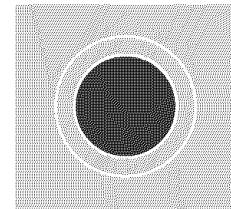
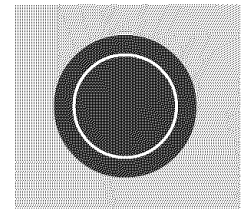

Figure 3
Figure 4
The cooktop is equipped with a dual radiant surface element located at the right front (See Figures 1) position. Symbols on the control knob are used to indicate which coil of the dual radiant element will heat. The ● indicates that only the inner coil will heat (Figure 3). The ⊙ indicates that both inner and outer coils will heat (Figure 4). You may switch between settings at any time during cooking.
2. Push in and turn the control knob clockwise (See Figure 3) for smaller cookware or counterclockwise (See Figure 4) for larger cookware.